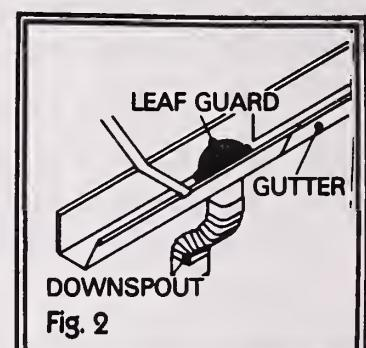

Fig. 2
3. Check the gutter outlet opening where the water flows into the downspout. The outlet should have either a leaf guard or leaf strainer. Clean debris from the leaf guard or strainer and replace in position (fig. 2).